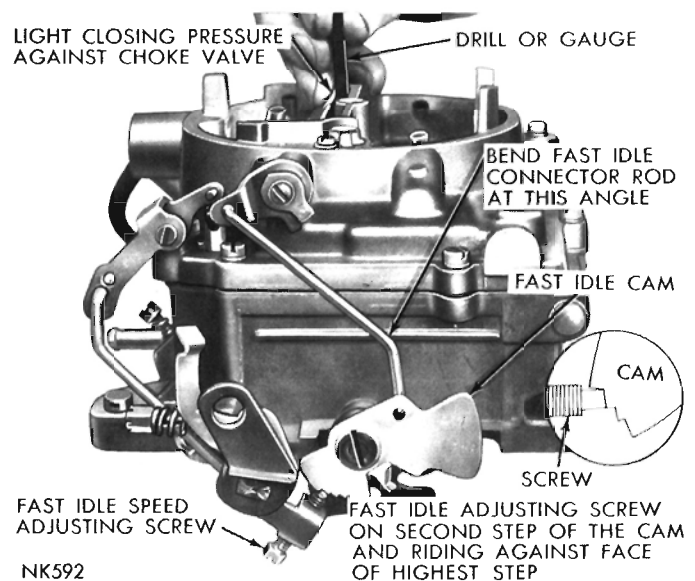

Fig. 13—Fast Idle Cam Position Adjustment
(1) With fast idle speed adjusting screw contacting step on fast idle cam, shown in (Fig. 13), move choke valve toward closed position with light pressure. In-
(2) An adjustment will be necessary if a slight drag is not obtained as the drill is being removed.
(3) If an adjustment is necessary, bend fast idle connector rod at angle, using Tool T109-213 until correct valve opening has been obtained. Refer to (Fig. 13).